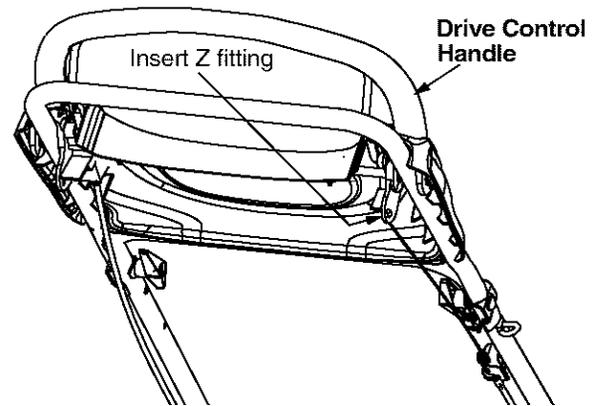

Figure 3
- While holding the drive control handle, hook the "Z" end of the drive cable into the bottom hole of the drive control handle from inside to outside. See Figure 3 .